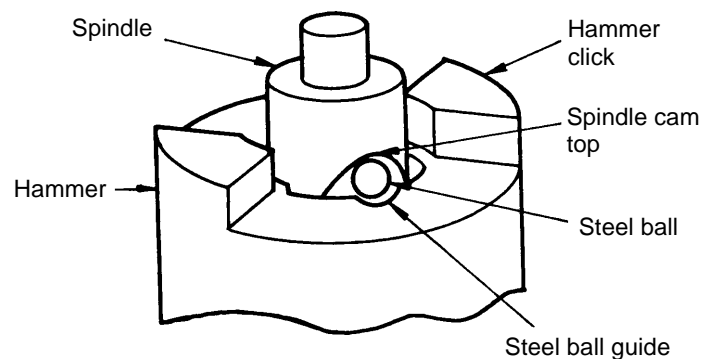

Fig. 4
c) Removing the Spring (See Fig. 4)
- 1) Ensure that the 22 Steel Balls ⑨ (10) (WH16: ϕ 3.175, WH22: ϕ 3.969) are inserted between the Spindle ⑪ (12) and the Spindle Seat ⑧ (9). (Be sure to apply grease at the time of reassembly.)
- 2) Put the Spring ⑦ (8) in place, and insert the Hammer ⑥ (7). Press down on the click end of the Hammer with a hand press until the Spring is fully compressed, and hold it in that position. Ensure that the cam groove in the Spindle is properly aligned with the steel ball guide in the Hammer (see Fig. 4).
- 3) Insert the two Steel Balls ⑤ (6) (WH16: ϕ 6.35, WH22: ϕ 7.14) through the steel ball guide in the Hammer, and ensure that they properly enter the cam groove in the Spindle. Then, release the hand press to complete assembly of the Hammer.